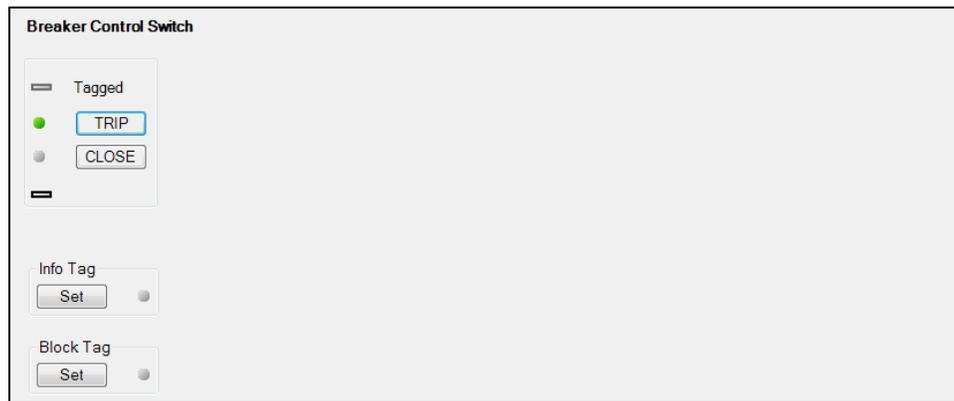

Figure 26-2. Breaker Control Switch Control Screen
1. Use the Metering Explorer to open the Control/Breaker Control Switch tree branch (Figure 26-2).